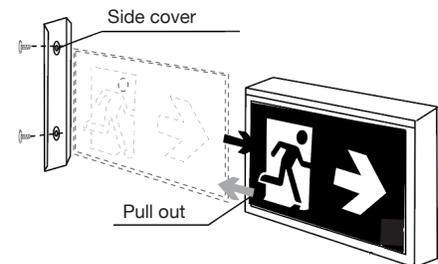

Fig. 1
2. Access fixture wiring department compartment by unscrewing the side cover (Fig. 1).